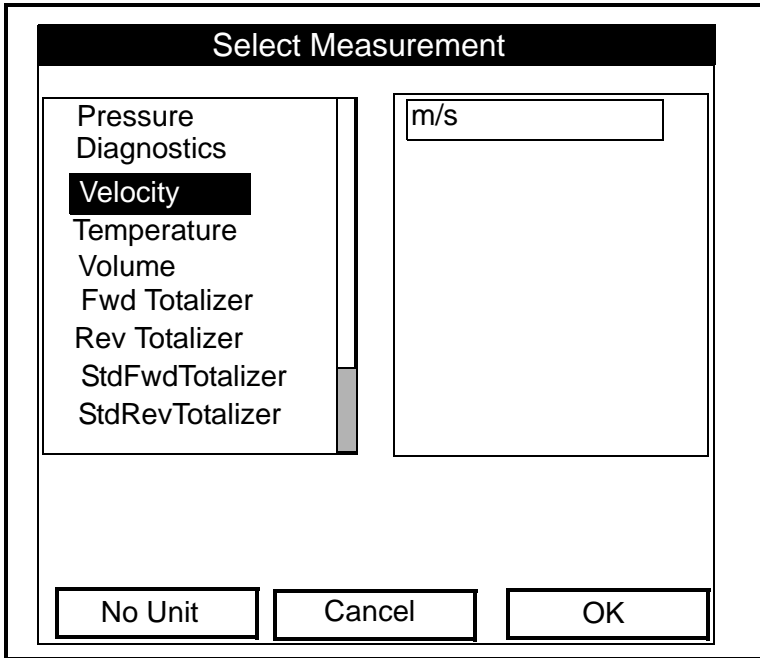

Figure 8-7: The Select Measurement Window
1. Press [ENTER] to open the first entry. The Select Measurement window opens, as shown in Figure 8-7 on the next page.